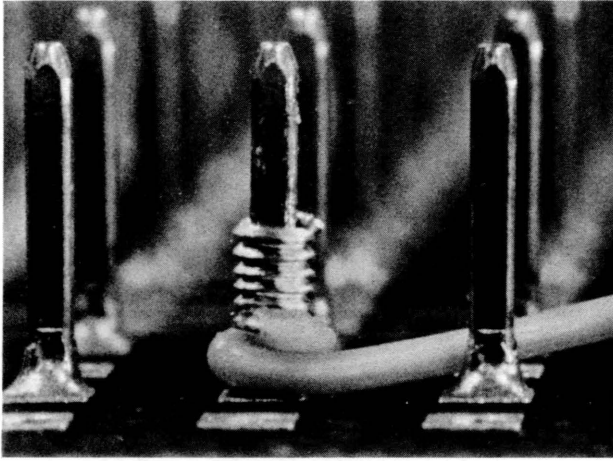
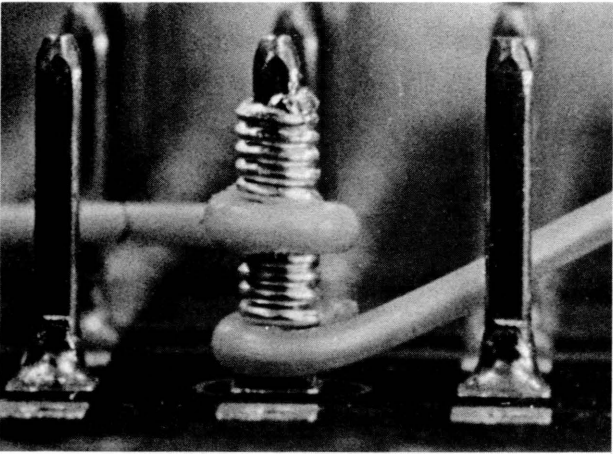

Figure 2-19. One Acceptable Termination
Figure 2-20. Two Acceptable Terminations
The hand wire-wrapping tool, part 452527 (Figure 2-13), is designed especially for use with #30 AWG wire. The wrapping bit is spring-loaded within the handle which permits the sleeve to cut the wire to the exact length and to provide a gage for measuring the pressure applied to the tool during the wrapping operation. Ideally, the optimum pressure is applied to the tool when the cutting edge at the bottom of the handle is halfway between its normal position and the cutting edge on the wrapping bit. With a little practice, this can be easily achieved. *Note:* A “first level wire-wrap” is the first wire-wrap on a pin; i.e., wire near the board (Figure 2-19). A “second level wire-wrap” is a wire-wrap that is added to a pin after one has already been made on the pin (Figure 2-20).
A poorly wrapped solderless termination is easily recognized and must be replaced. Figures 2-19 through 2-21 show examples of good and bad terminations:
1. Figure 2-19 shows one correctly wrapped termination. Figure 2-20 shows two correctly wrapped terminations. In both cases, at least one-half turn of insulated wire is wrapped around the pin.